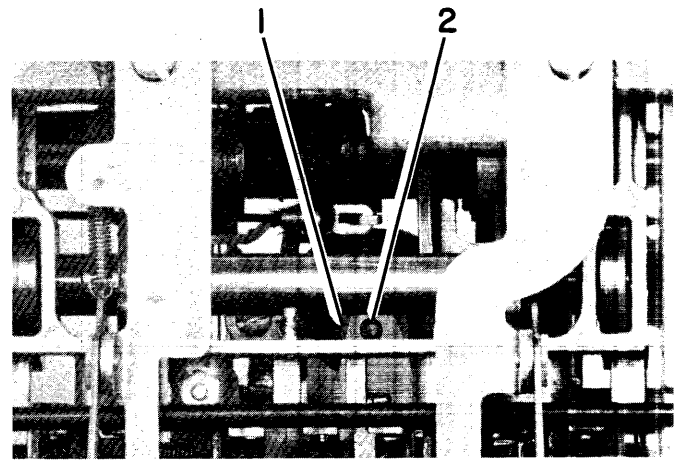

Figure 16. Lower Ball Socket and Tilt Ring Removal
8. Loosen the rotate pulley set screw (#1, Figure 16).
9. Use the butt end of a small spring hook as a follower to push out the lower ball socket (#2, Figure 16). NOTE: This prevents the wedge from being lost. When replacing the socket be sure the pin is pointing toward the front-left and right-rear corners.